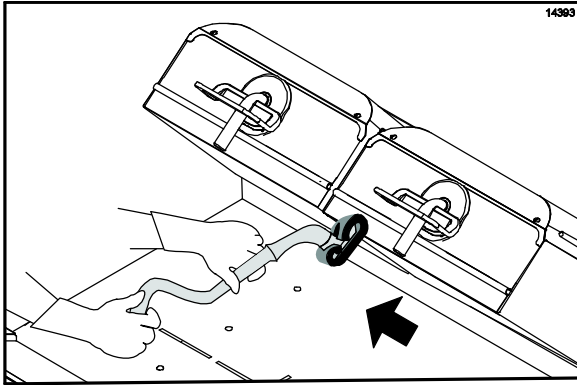

Figure 52
23. Using the Kay Grill Cleaning Pad Holder, scrub the front side of the platens from the right platen to the left platen. (See Figure 52.)